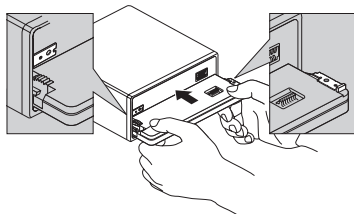

Fig. 11
2. Replace the front panel to the unit. (Fig. 11)